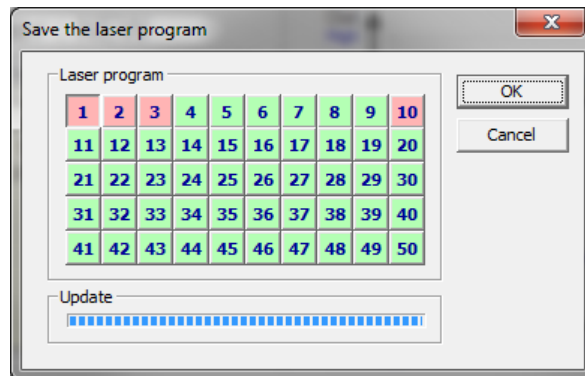

Figure 9-5 Save Laser Program Dialog
6. The “Save Program” dialog window will appear see Figure 9-5